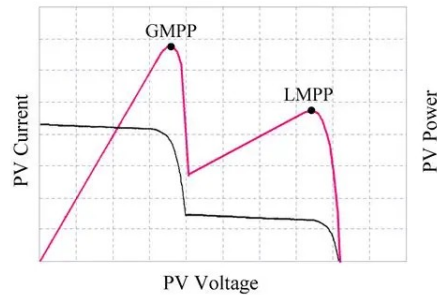

Fig. 2 A possible PV characteristic with local (LMPP) and global (GMPP) MPPs.
7. The cluster of PV panels would have characteristics similar to Fig. 2 in reality with local and global MPPs. How this can happen in reality? Would the implemented algorithms guarantee proper performance under such conditions? why? (Simulation results are not needed)